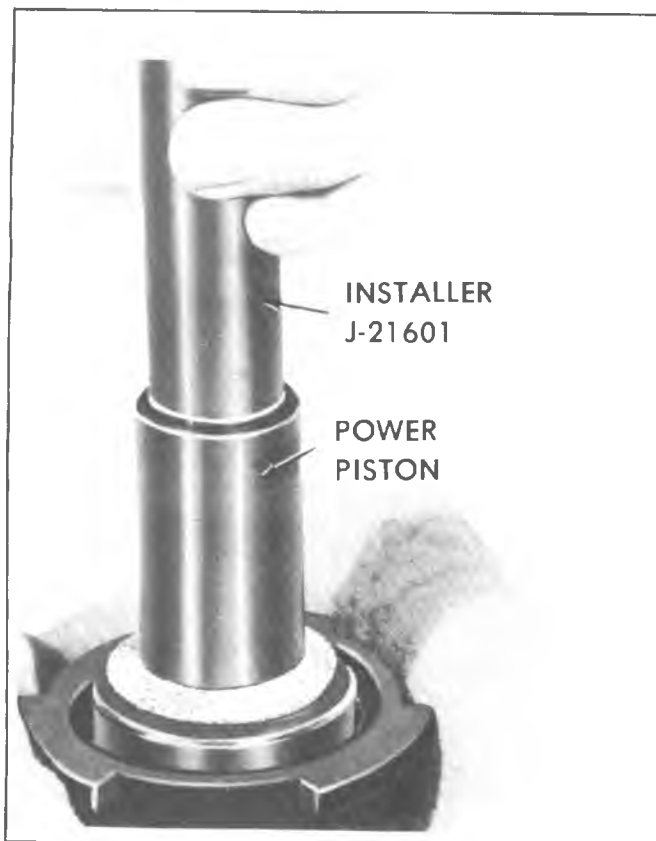

Fig. 5-11C—Installing Floating Control Valve Assembly
10. Start floating control valve and its retainer into power piston tube. Press the floating control valve to seat in the tube, by placing J-21601-01 Floating Control Valve Retainer Installer on top of retainer and pushing down by hand (fig. 5-11C).